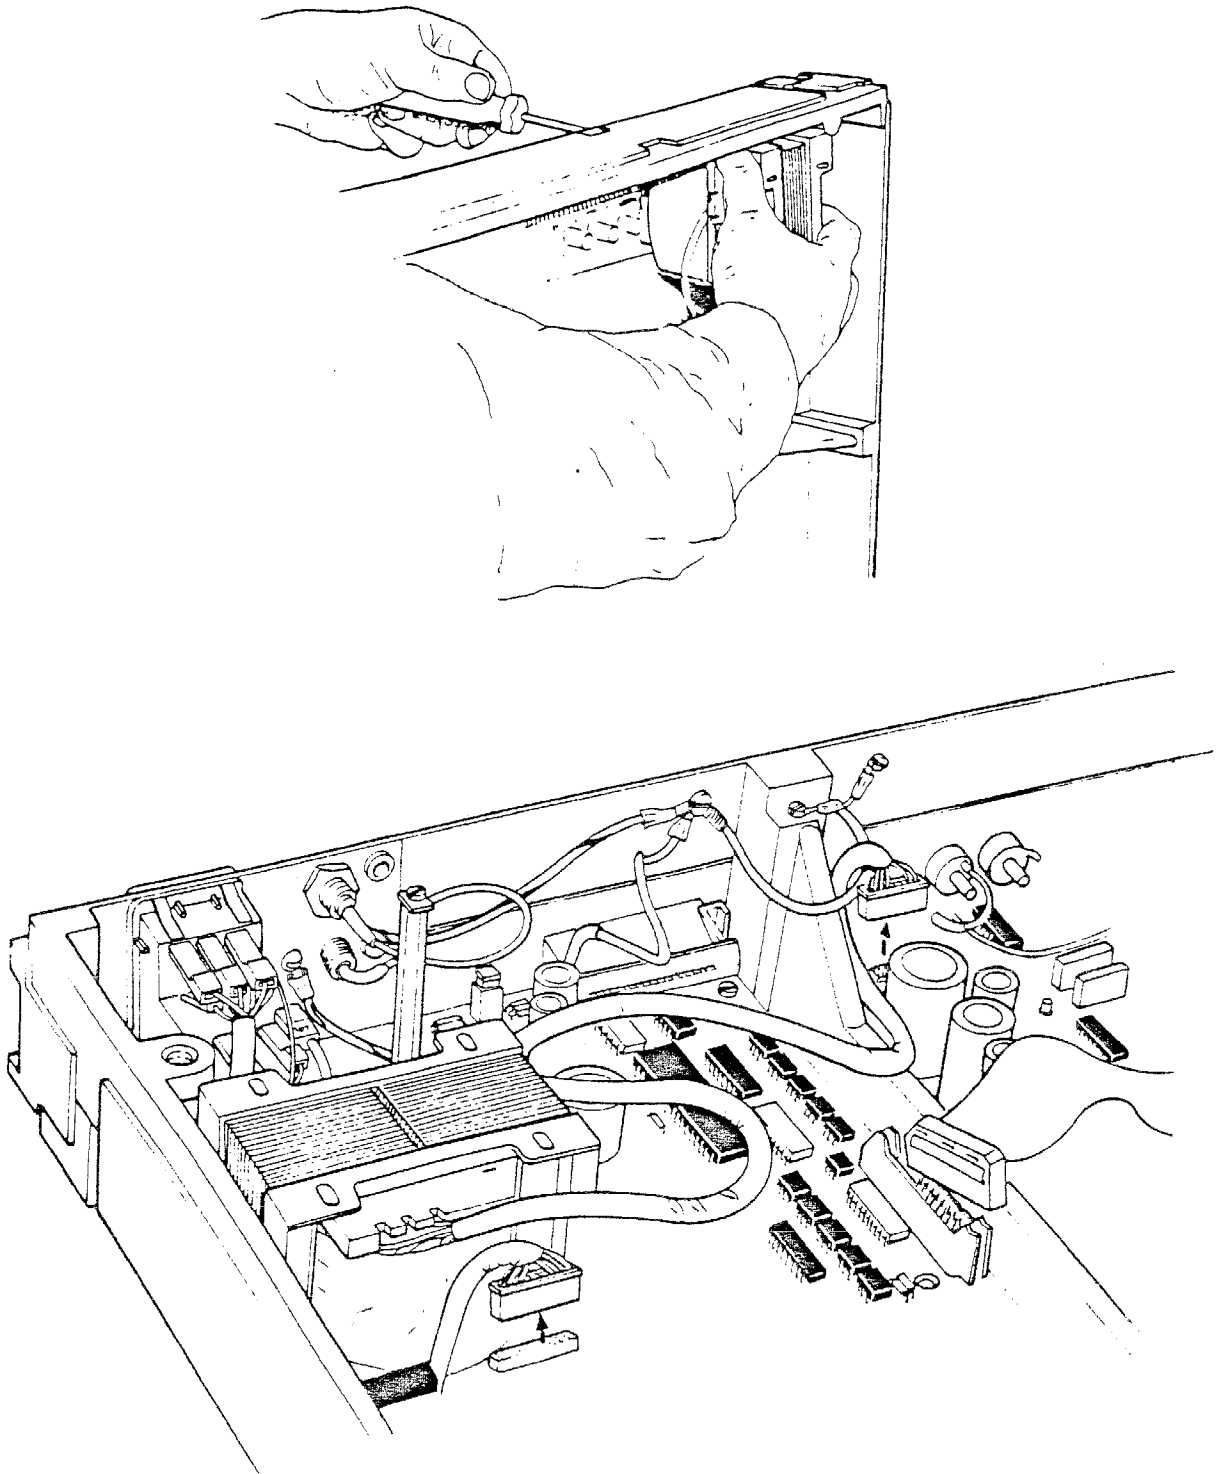

Fig 2.13 Mains Transformer Removal
6.12 MAINS TRANSFORMER REMOVAL (Fig 2.13)
5. Turn the instrument on its side and whilst supporting the transformer with one hand, remove the four screws and washers which secure the transformer to the chassis (see Figure 2-13.).